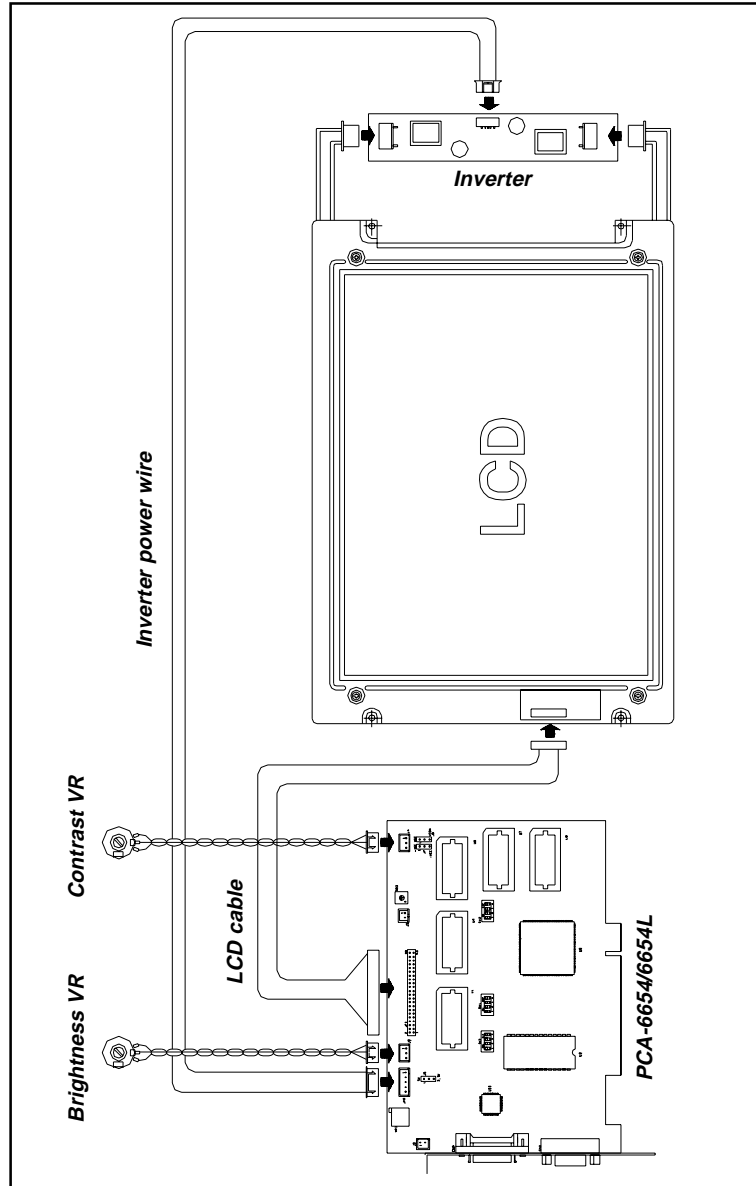

Figure 2-4: DSTN LCD setup
7. Connect the LCD cable, inverter, inverter power wire, and VR assembly. The VR assembly with wire for brightness control should be connected to J9, and the wire for contrast control should be connected to J4. (See Fig. 2-4.)